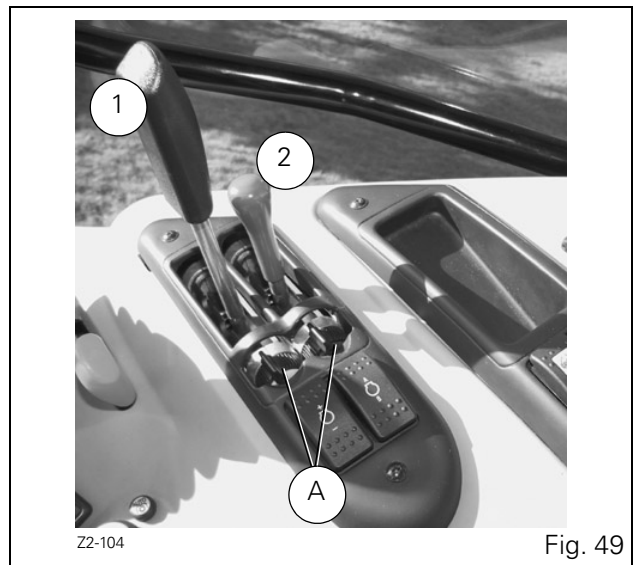

Fig. 49
4.15.2 - Type of controls available (Fig. 49):